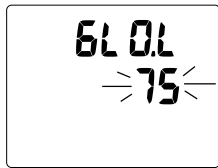

Fig. 71 - SET BACKLIGHT
**Set Backlight Level**, information includes (Fig. 71):